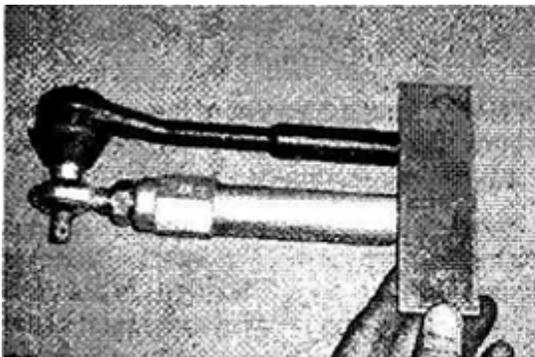

Figure 3
13. Using a straight edge, adjust the length of the billet collar and rod end assembly to approximate the factory tie-rod length. **Figure 3**